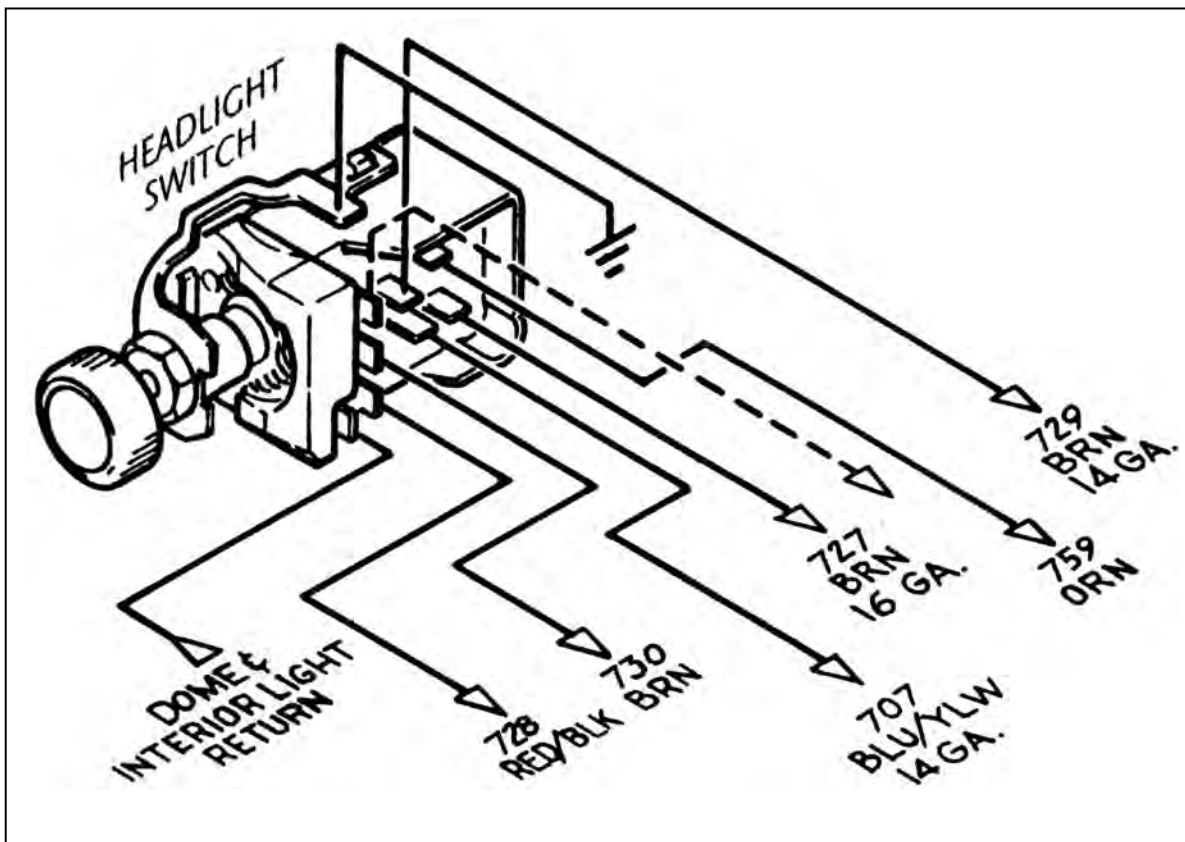

Figure 7.6 HEADLIGHT SECTION B (GM Style – Painless Part #80152)
7.7 HEADLIGHT SECTION B Wiring. See Figure 7-6.
Note: *On late-style GM headlight switches, the park lights terminal to which wire #727 (brn) is connected (shown in Figure 7-6) has been omitted. In this case, wire #727 must be connected as indicated by the dashed line in Figure 7-6.*